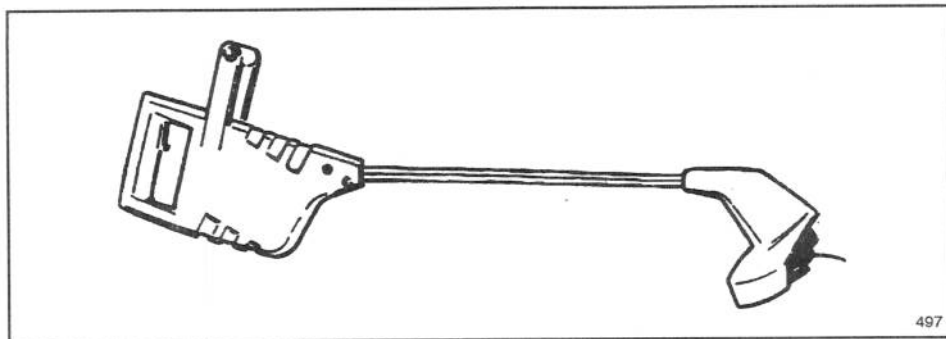

Figure 1
1. Trimmer should appear as shown in Figure 1 when fully assembled.